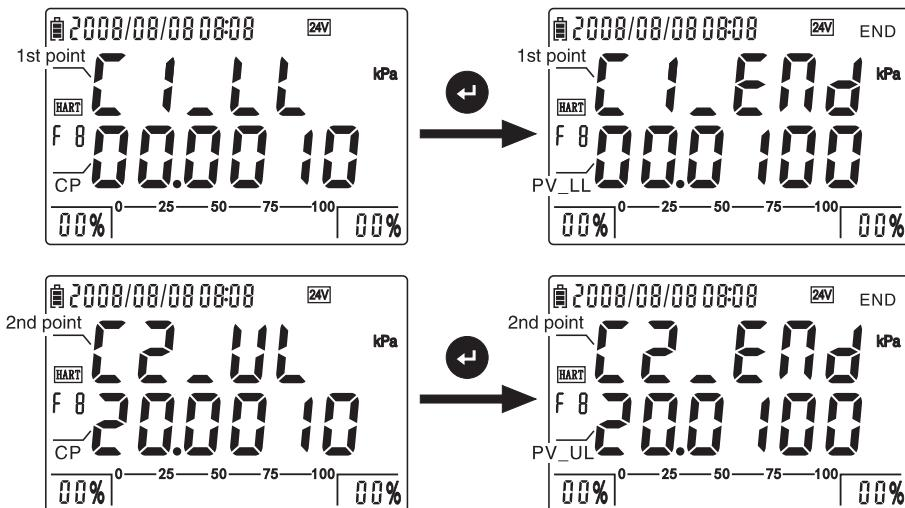

Figure 4-5-8-2: PV calibration process
to prioritize the calibration points. Then supply the pressure to the selected point. After CA value is steady, press to finish the calibration. Once every point is calibrated, the first line shows the character [END], the second line displays the new lower/higher limit of PV range. (As figure 4-5-8-2)
- c. After calibration, press to the interface as figure 4-5-8-1, press to function 9.